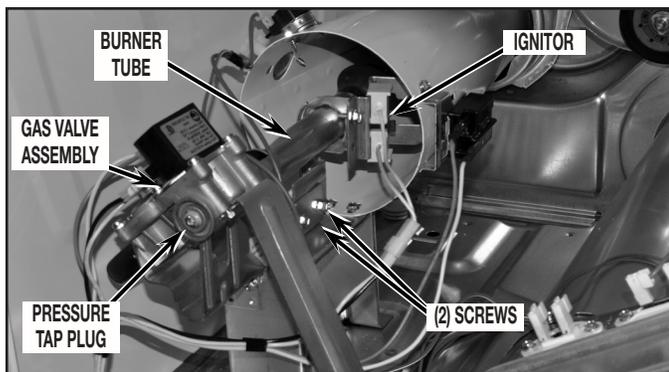

FIGURE 19B
- Disconnect ignitor wires from harness then remove the burner tube by removing the two (2) screws securing it to the burner base. See *Figure 19B*, then continue to Step 23 "Changing the Orifice".